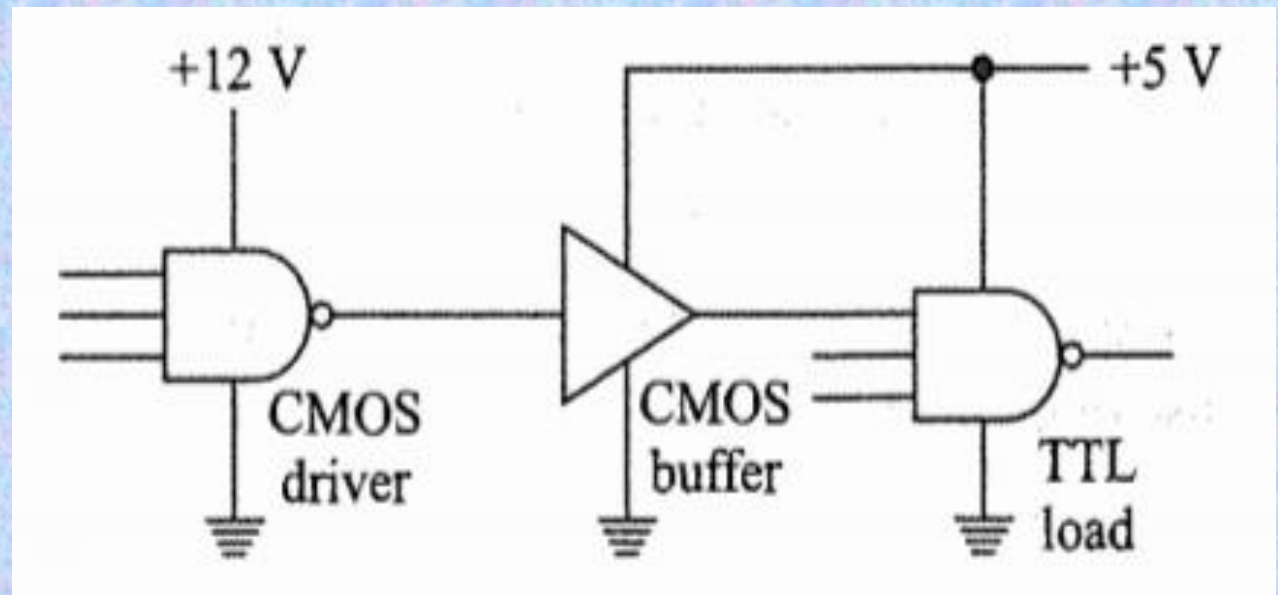

Fig. 1.40 CMOS driver runs better with 12-V supply
- Figure 1.40 shows how to use the previous idea to our advantage. Here, the supply pin of the CMOS driver is connected to + 12 V. On the other hand, the supply pin of the CMOS buffer is connected to +5 V to produce the TTL interface. Therefore, the input to the CMOS buffer will be as much as +12 V, even if its supply voltage is only +5 V. The fanout of this interface is still two standard TTL loads.